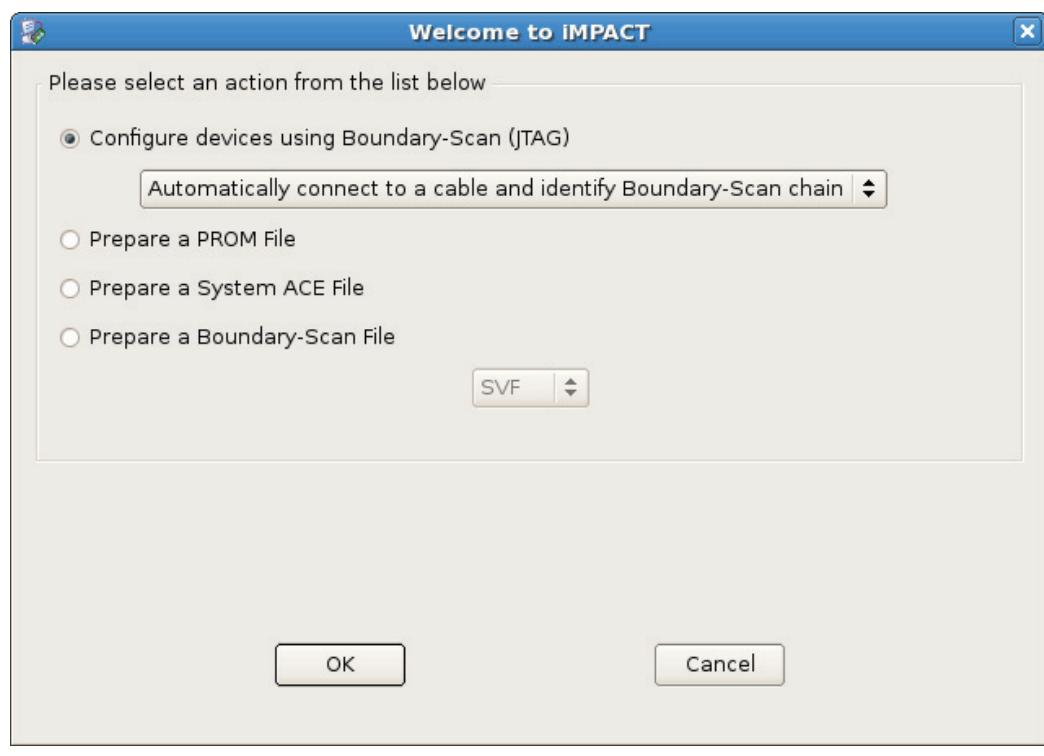

Figure 11: Welcome to iMPACT Dialog
16. In the Welcome to iMPACT window, select **Configure devices using Boundary-Scan (JTAG)** and click **OK** (Figure 11).